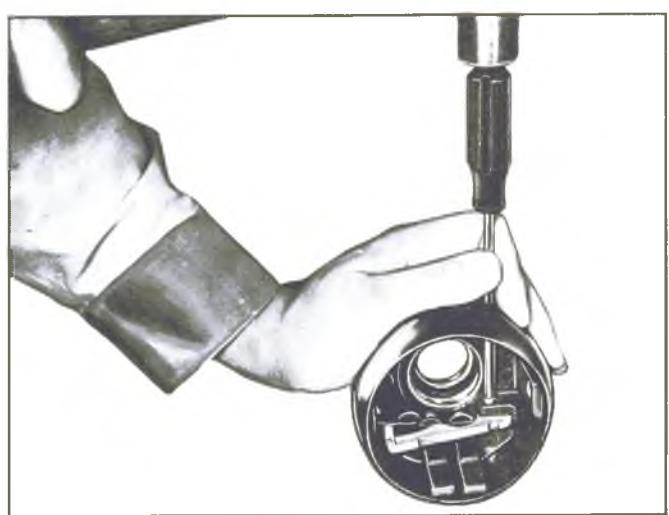

Fig. 94—Removing Release Lever Pivot Pin
- d. Drive out the shoe release lever pivot pin using Tool J-22635 or a suitable punch (fig. 94). Remove the lever spring and remove the wedge.